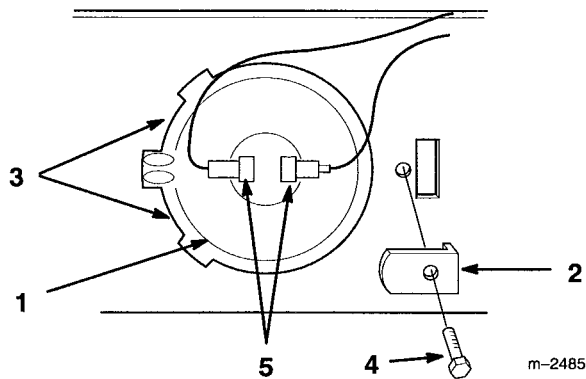

Figure 31
3. Remove screw securing retainer bracket (Fig. 31).
4. Lift and twist bulb out of pocket (Fig. 31).
1. Locate index boss horizontal and twist bulb under tabs on left side of pocket (Fig. 31).
2. Hold bulb in socket with retainer bracket and secure with screw (Fig. 31).
3. Push wire connectors onto bulb terminals (Fig. 31).